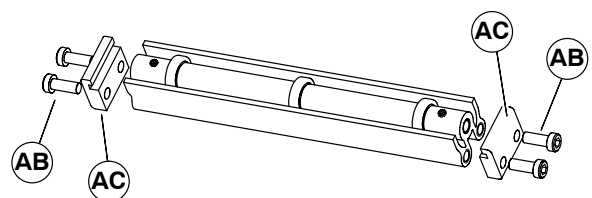

Figure 11
1. Locate return rollers. Exploded view shown in Figure 11.
2. Remove screws (AB of Figure 11) and clips (AC) from roller assembly.